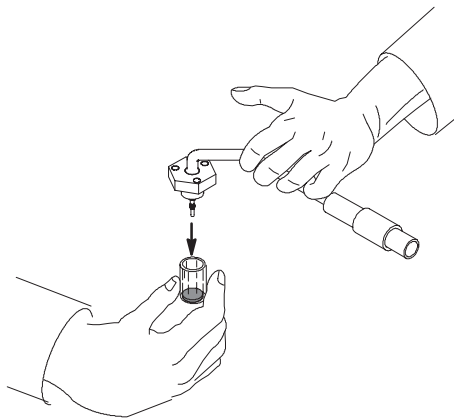

Figure 5 Uncapping the bead
- 4 Uncap the new bead by pushing the cap off from the cable side (Figure 5). Make sure not to bump the bead on the sides of the cap.